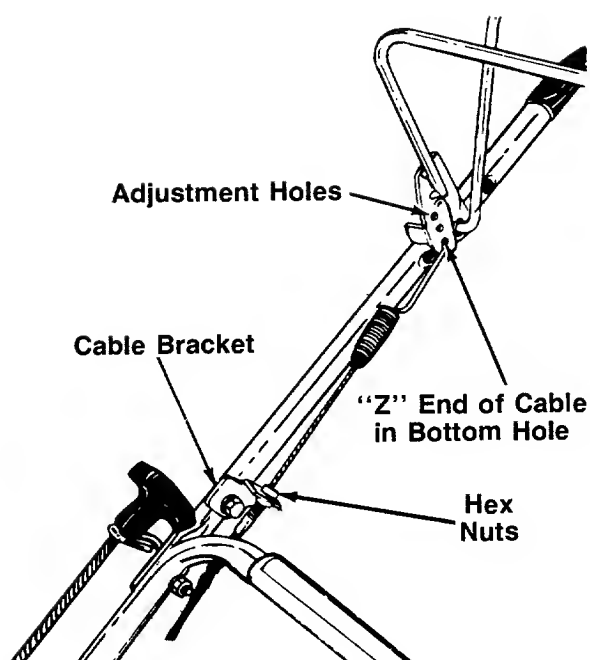

FIGURE 8.
17. The drive clutch cable is attached to the drive cover, and has a spring on one end. Route the clutch cable inside the handle mount bracket and under the lower handle. Hook the spring on the end of the cable into the bottom hole on the drive clutch control handle. See figure 8.
If additional adjustment is needed, unhook the cable from the clutch handle and move it to the next higher adjustment hole provided. Refer to figure 8. Then readjust the hex nuts at the cable bracket.